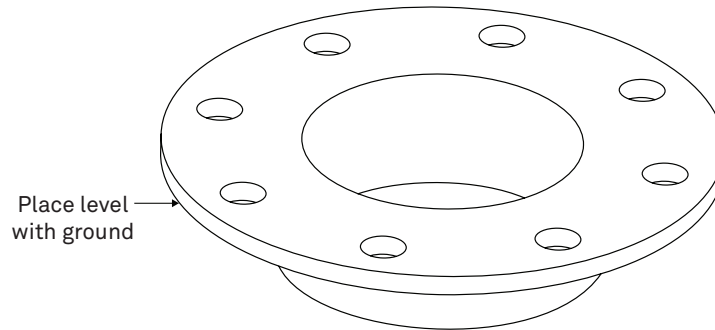

Figure 4 Flange
9. Place the flange (as shown in Figure 4) on the soil surface over the borehole opening and ensure the bottom of the large ring is flush with the soil surface.